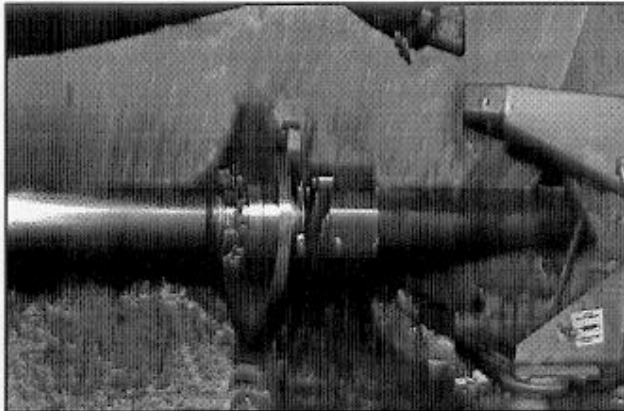

Figure 4
- b. Install the load side idler shaft adjustment assembly. Put the shaft all the way through the discharge side of the machine and bolt the plate (finger tight) that holds the load side bearing housing to the shell front (see figure 4).